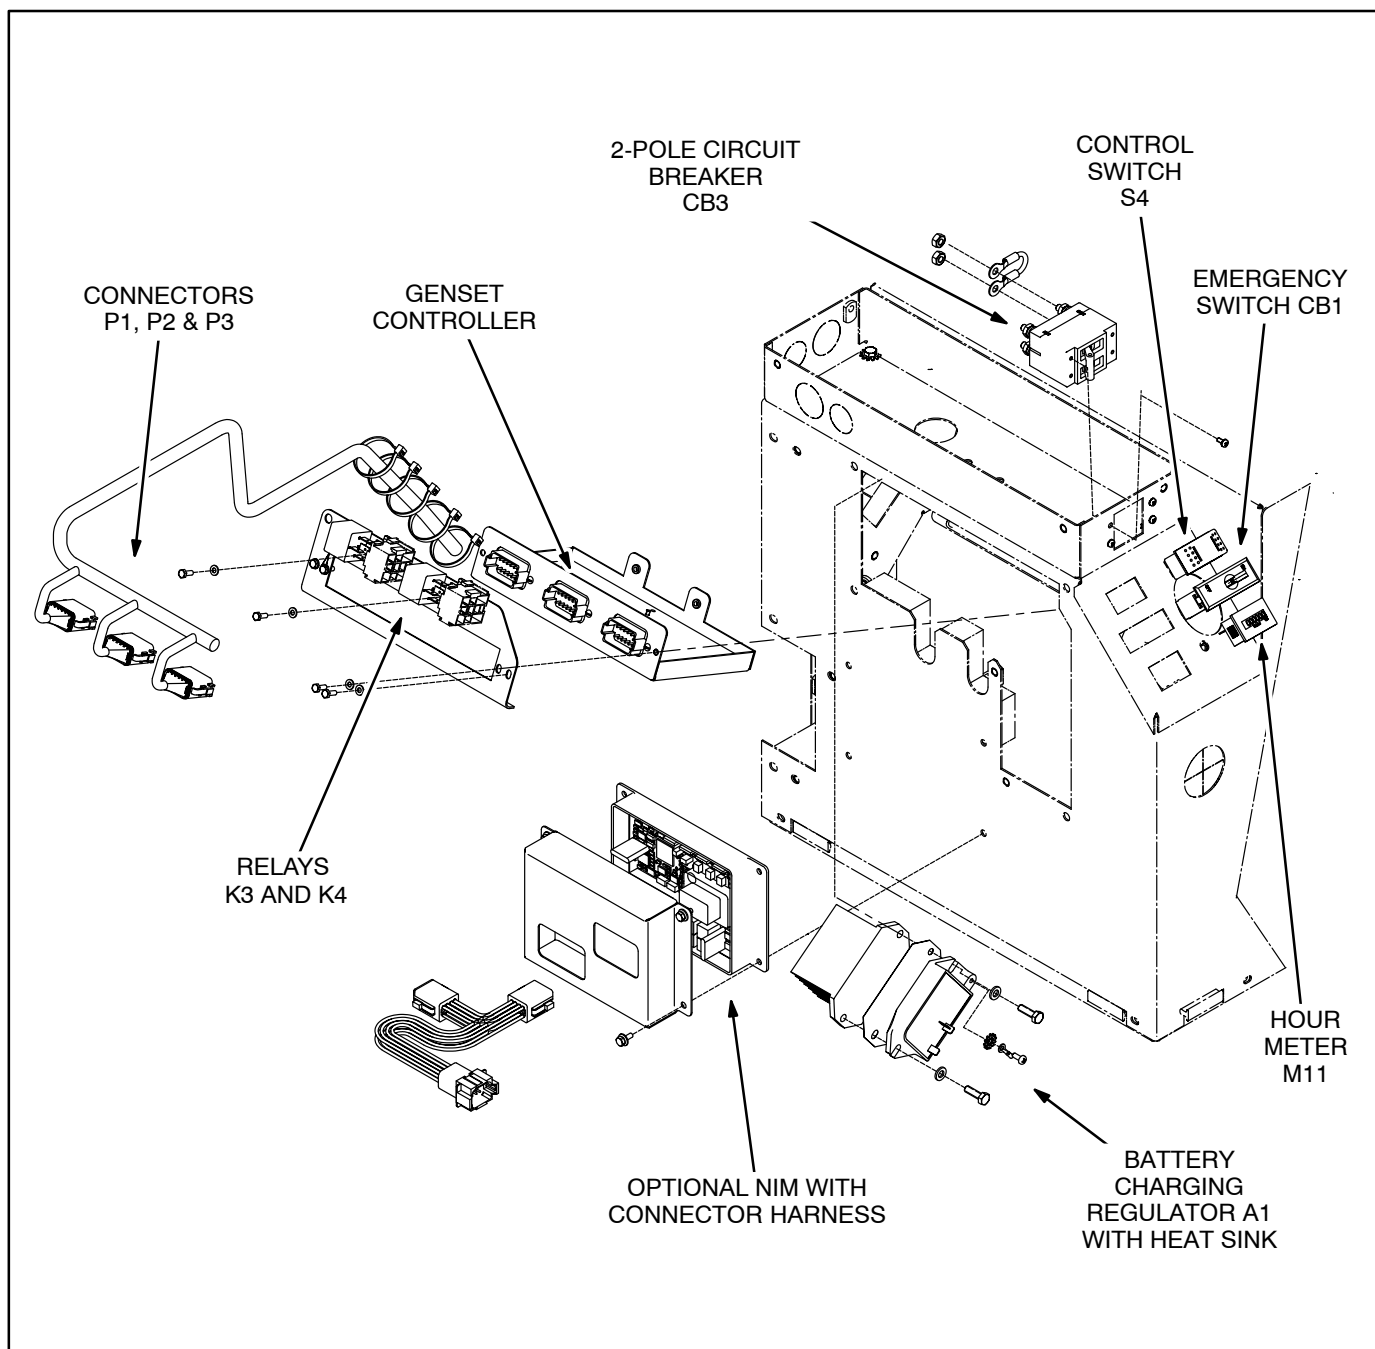
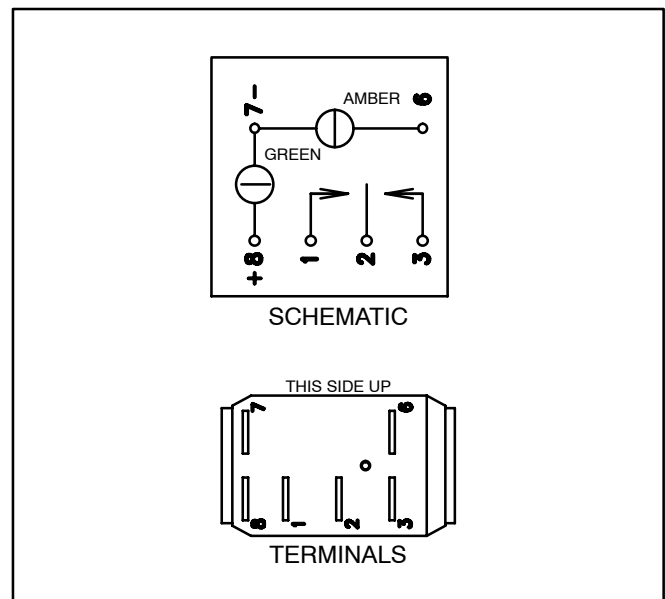
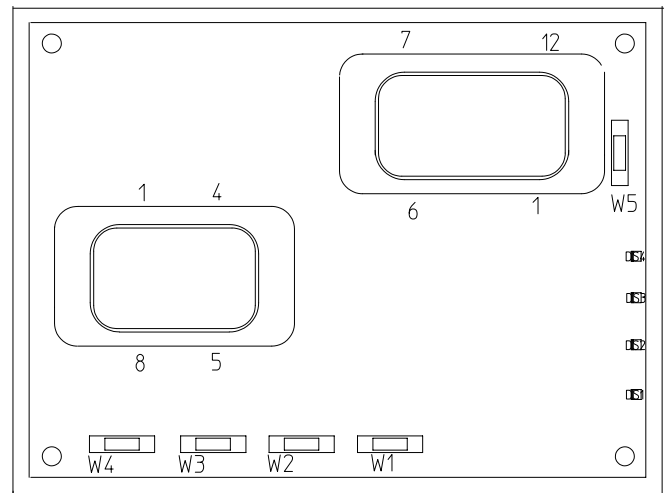

FIGURE 9-1. GENSET CONTROLLER AND ITS MOUNTING
FIGURE 9-3. CONTROL SWITCH S4
FIGURE 9-6. NIM CONFIGURATION JUMPERS
Disconnect T1, T2, T3 and T4 from the terminals in the output box. Disconnect B1 and B2 from charging regulator AVR1 (Figure 9-1). Disconnect Q1 and Q2 from controller A1 by pulling green connector P3 (Pins 4 and 5).
Figure 9-1 illustrates the location and mounting of the genset controller behind the air inlet screen on the front of the genset. The control board has a microprocessor controller that provides all the control, monitoring and diagnostic functions required to operate the genset.
The controller is mounted in the second intake resonator chamber where it is cooled by the intake air and is accessible through the left access panel (Figure 9-1). It is easier to remove if all the screws securing the front / left side panel are loosened from the drip pan and other panels so that the panel can be shifted. Alternatively, remove the AC output box.
The control switch, when located on the genset, is mounted on the control panel (Figure 9-1). Unsnap the connector for access to its terminals (Figure 9-3). Replace the switch if **Start** does not close terminals 2 and 3, **Stop** does not close terminals 1 and 2, *Green* does not light when battery voltage is applied across terminals 7 (–) and 8 (+), or *Amber* when battery voltage is applied to terminals 7 (–) and 6 (+).
The switch/circuit breaker is mounted on the control panel (Figure 9-1). Disconnect the leads and check electrical continuity across the two terminals. Replace the circuit breaker if it does not reset or turn ON and OFF. For easier access to the switch terminals, push out the four plastic buttons that secure the panel and pull the panel and switch forward.
The hour meter is mounted on the control panel (Figure 9-1). See Page 2-7 for instructions on how to reset the hour meter on the optional Digital Display to match the master hour meter when replacing the genset controller.
Mounting: The regulator and heat sink are mounted on the air intake duct (Figure 9-1). The regulator is easier to remove if the AC outlet box is tilted out (secured by 4 screws inside the box).
The glow plug relay is mounted on its wiring socket on the controller mounting bracket (Figure 9-1). Pull the relay out to test it. Apply 12 VDC across terminals 85–86. Replace the relay if the contacts across terminals 30–87 (NO) do not open and close.
The starter relay is mounted on its wiring socket on the controller mounting bracket (Figure 9-1). Pull the relay out to test it. Apply battery voltage across terminals 85–86. Replace the relay if the contacts across terminals 30–87 (NO) do not open and close.
The optional NIM board is mounted on the side of the genset (Figure 9-1) and is connected as shown on Page A-1. It has five jumpers to configure the board for the specific application (Figure 9-6). Make sure a replacement board is configured the same as the old one.